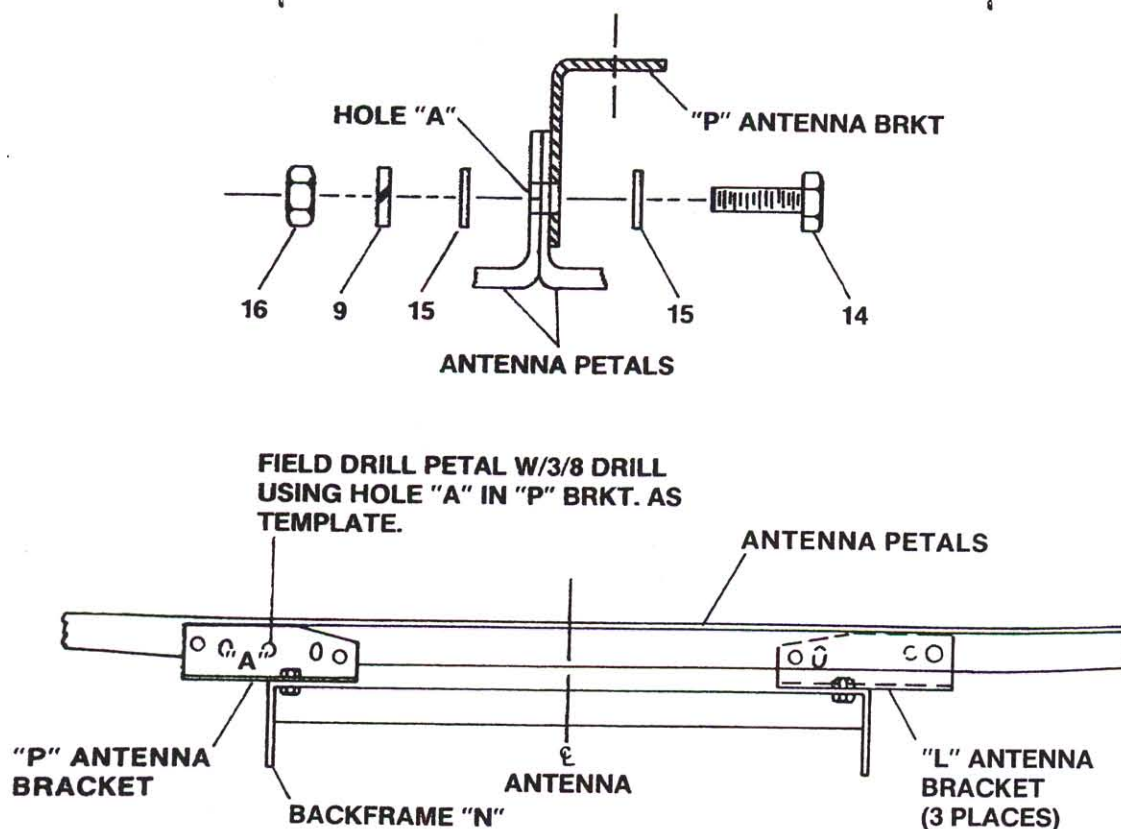

FIG. 4.3
As shown in above Fig. 4.3, field drill 3/8" diameter hole in petal using hole "A" in antenna bracket "P" as template. Install a 3/8" x 1 1/4" bolt (14), 3/8" flat washers (15), 3/8" lock washer (9) and 3/8" hex nut (16) in hole "A".